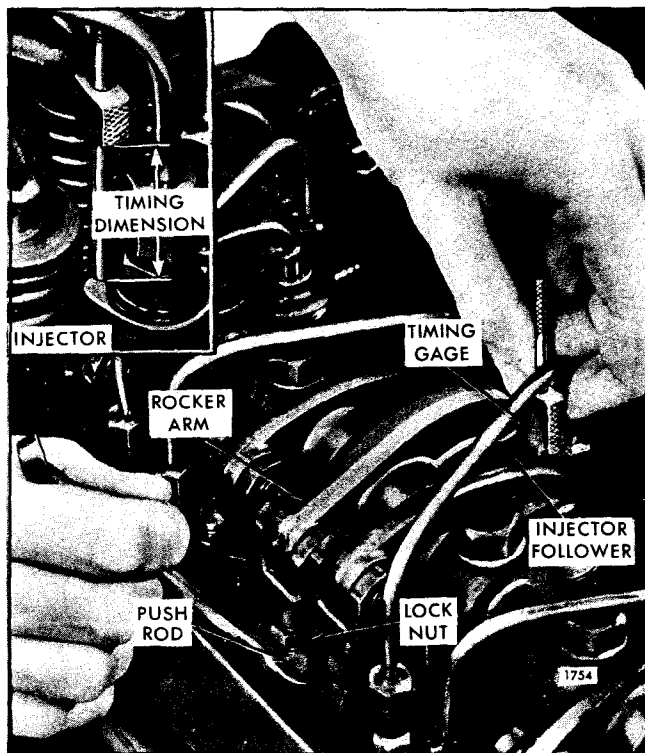

Fig. 4 - Timing Fuel Injector
3. Place the small end of the injector timing gage in the hole provided in the top of the injector body, with the flat of the gage toward the injector follower (Fig. 4).